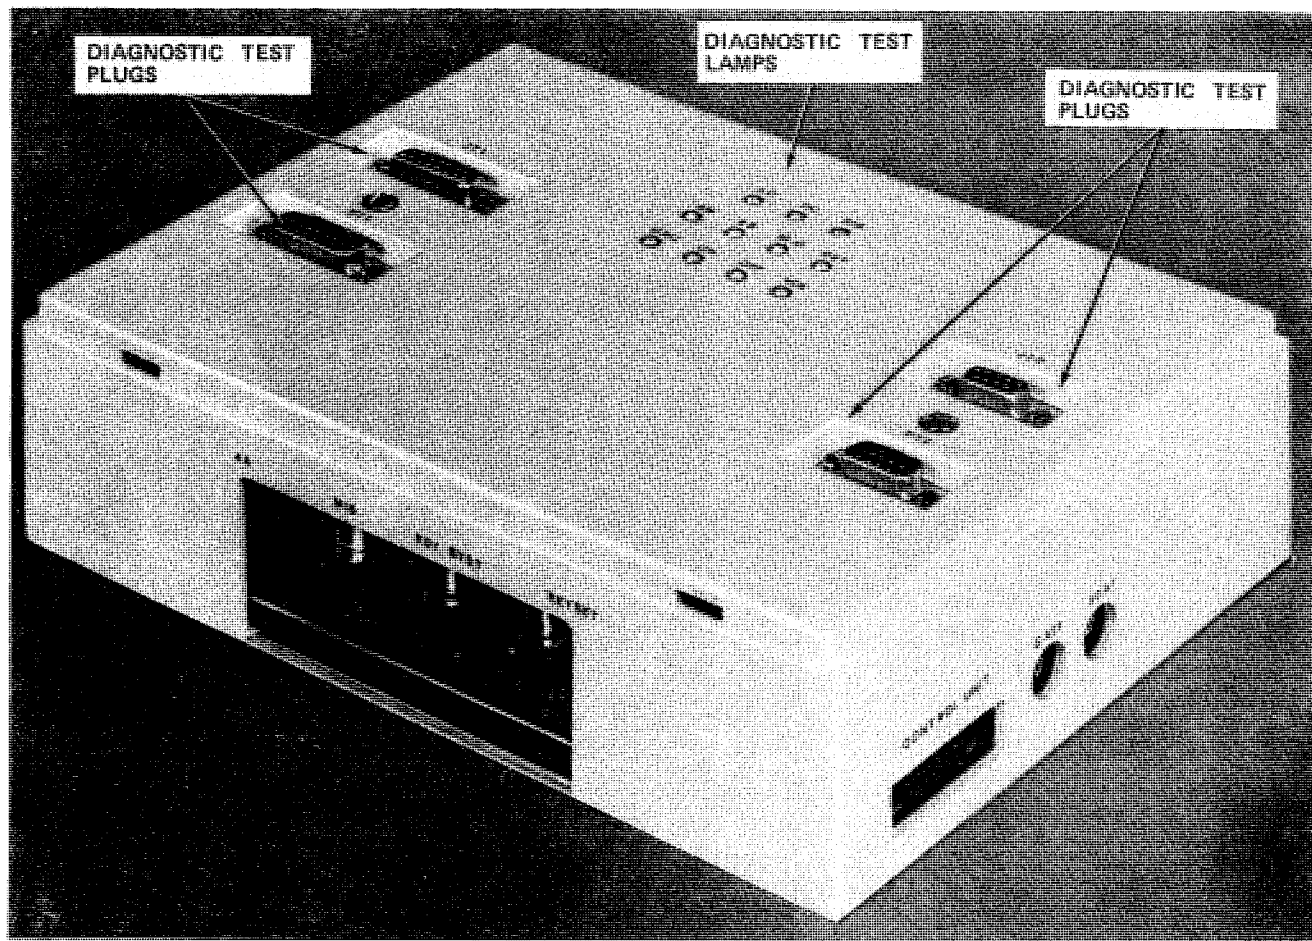

Fig. 7—122A Connecting Unit With Test Cover Removed
- (1) Plug the D20N cord from the 108AA loudspeaker set into the appropriate part of the receptacle marked 4A as/per 122A connecting unit cover (Fig. 7 and 8).
- (2) Remove the cover from the 108AA loudspeaker set by removing the two bottom cover screws.
- (3) Disconnect the red lead on terminal 29 inside
- (10) Plug the D8S cord from the 680-type transmitter into the appropriate portion of the receptacle marked 4A as per 122A connecting unit cover (Fig. 7 and 8).